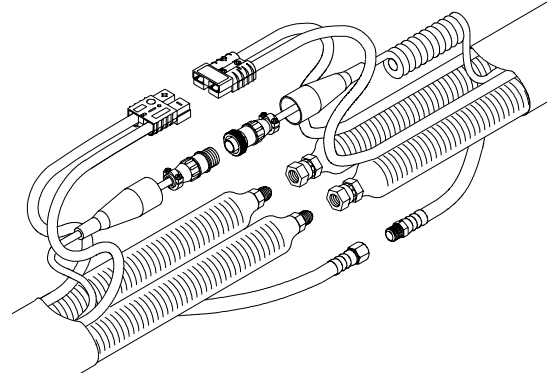

Figure 8. Hose Connection Step (a)
- a) Lay out the heated hose assemblies as shown (see Figure 8).